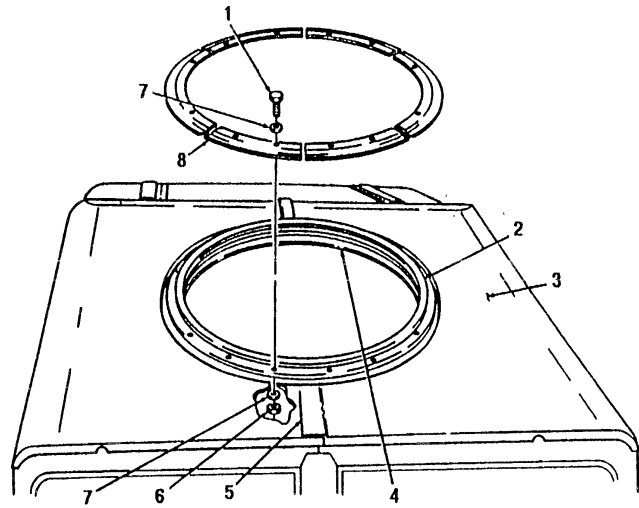
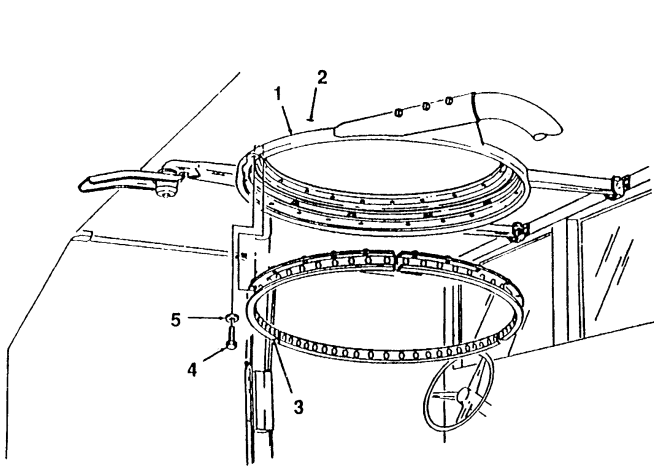
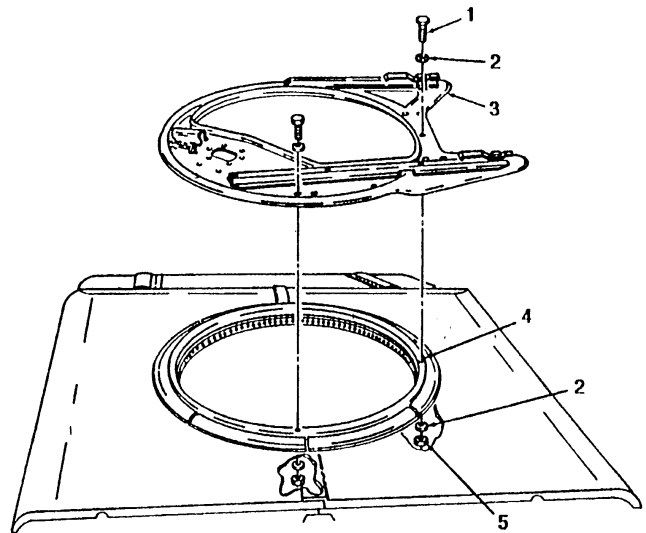

FIGURE 3-35
FIGURE 3-36
FIGURE 3-37
1. Position bearing assembly (2) on support ring (4). (see figure 3-35)
2. Fill gap between bearing assembly (2) and roof (3) with NSN 8040-00-865-8991 adhesive sealant.
3. Fill front and rear roof seams (5) with NSN 8040-00-865-8991 adhesive sealant.
4. Secure bearing assembly (2) and six roof retainers (8) on support ring (4) with twelve existing screws (1), twenty-four washers (7), and twelve NSN 5310-00-935-9021 nuts (6). Tighten nuts to 37 lb. ft. (50 N•m).
5. Apply NSN 8046-00-865-8991 adhesive sealant to area where support ring (1) and roof (2) meet. (see figure 3-36)
6. Position three lockring sections (3) to support ring (1), and secure with eighteen existing screws (4) and washers (5). Tighten screws to 37 lb. ft. (50 N•m).
7. Position weapon station tray (3) on bearing assembly (4), and secure with three existing screws (1), six washers (2), and three NSN 5310-00-935-9021 nuts (5). (see figure 3-37) Tighten nuts to 37 lb. ft. (50 N•m).